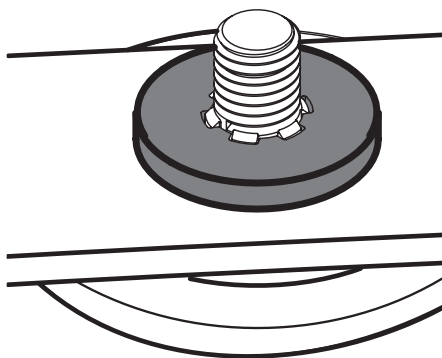

Figure 4-27
3. Carefully place the flat washer on the spindle shaft. Be sure that the splines at the base of the spindle shaft threads line up with the washer splines. See Figure 4-27.